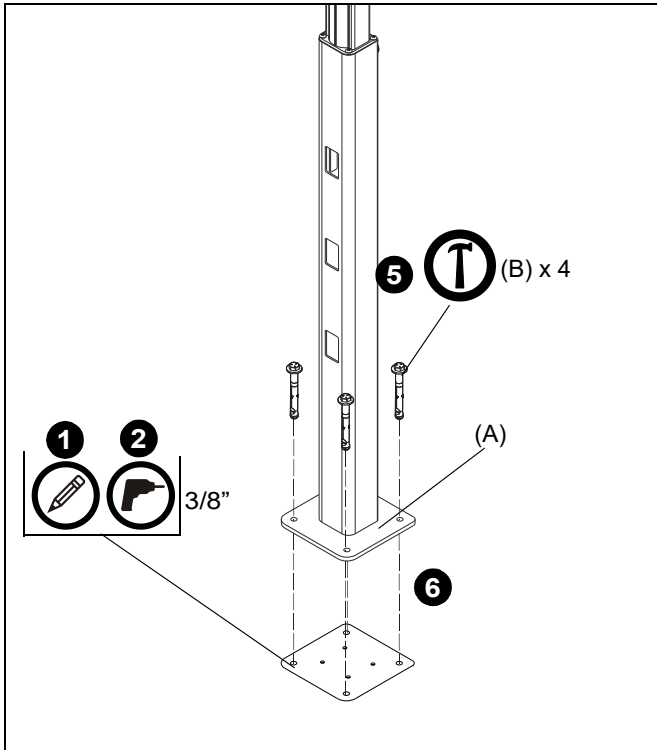
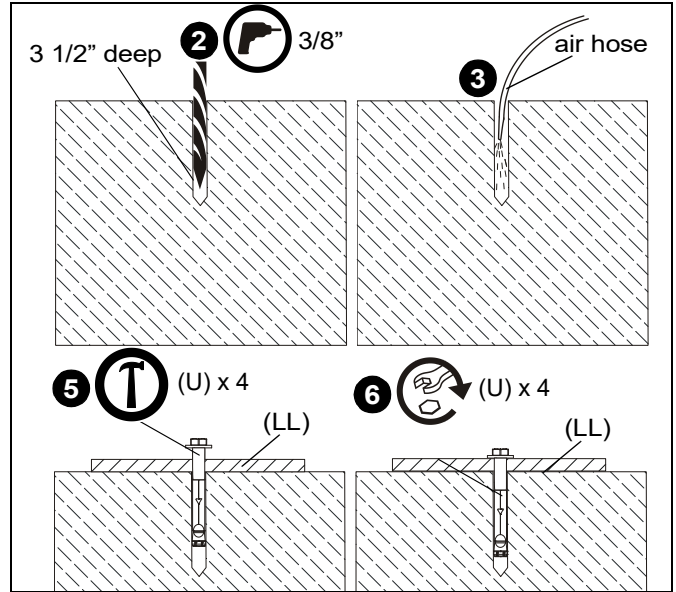

Figure 3
Figure 4
- Using bolt down plate (A) as a template, mark four holes at outside hole locations for each column. (See Figure )
- Using a 3/8" drill bit, drill a hole 3 1/2" in depth at each marked location. (See Figure 3) and (See Figure 4)
- Blow each hole clean of any concrete debris with a large air hose or compressed air in a can. (See Figure 4)
- Place each base plate (A) on top of drilled holes making sure holes on plate are aligned with drilled holes. (See Figure 4)
- Use a hammer to drive 3/8 x 3" concrete anchors (B) through plate holes into the drilled holes until the bolt head is firmly seated against the plate. (See Figure ) and (See Figure 4)
- Tighten each anchor by turning the head three to four turns past finger tight. (See Figure 4)